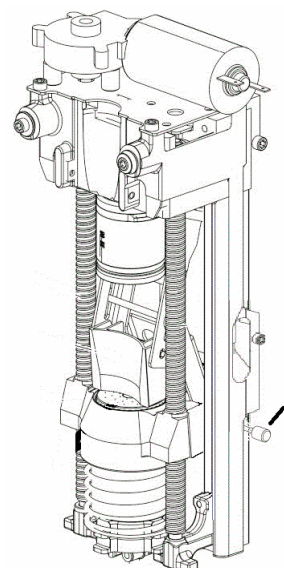

Figure 9-18
- 3 Put the brewing unit in the lower position. Press *04* on the service panel, then press any button to get the brewing unit to the bottom position (*see figure 9-18*).
- 6 Remove screw (1) to make the lever system move backwards.